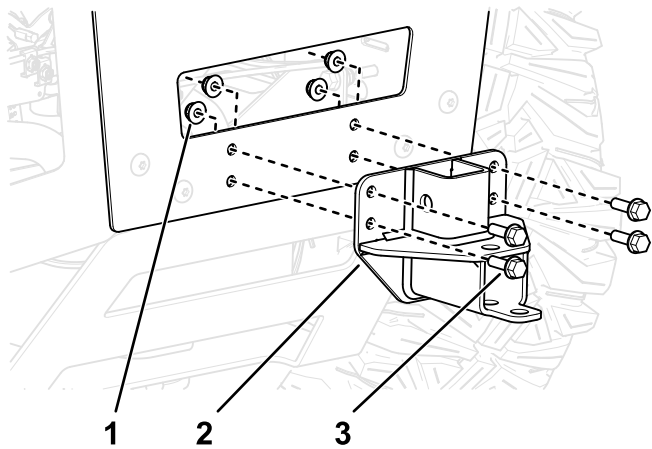

Figure 14
- Install the bagger mount bracket to the machine as shown in Figure 14.